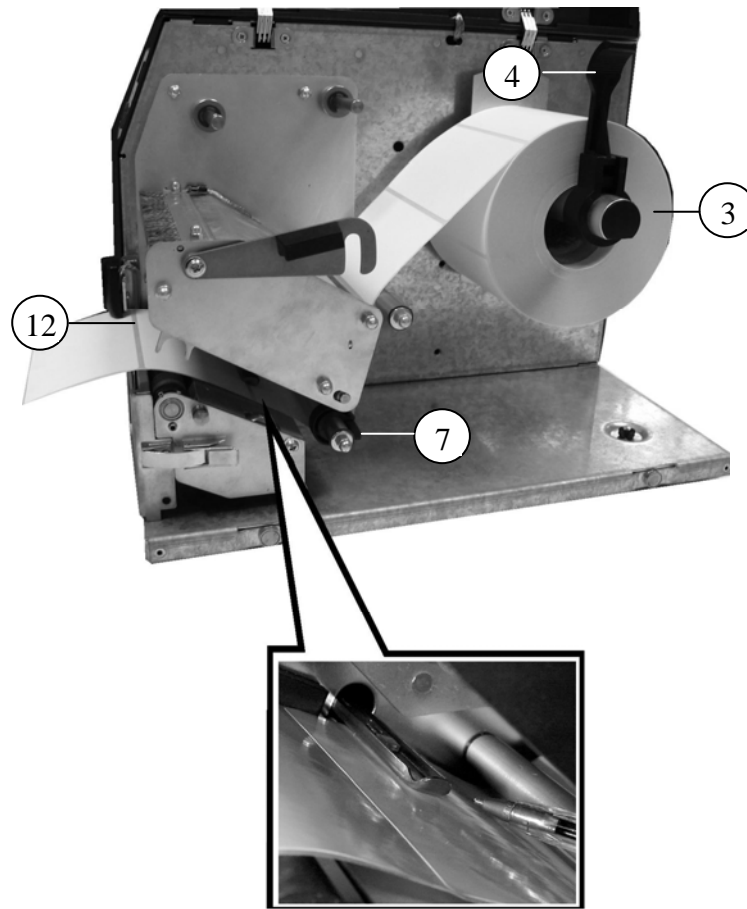
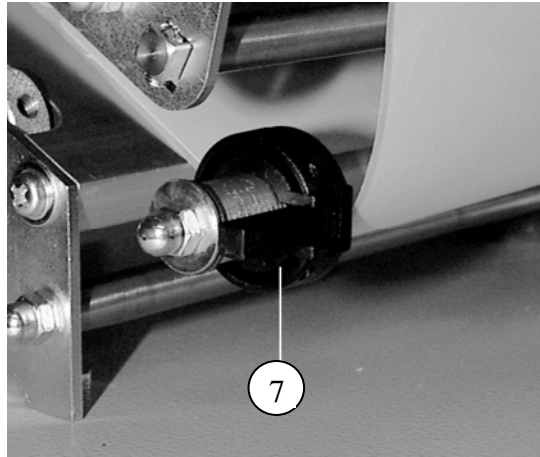

Fig. 12 – Label roll insertion and detail of paper path/sensor
Fig. 14 – Detail of the paper guide
- Insert the label roll (3) onto the corresponding roll shaft.
- Move the label roll lock lever (4) to the vertical position. Be careful not to block the movement of the label roll itself.
- Then pass the free end of the label roll over the first media roller and under the second one, on which the paper guide (7) is installed, then between the two sides of the paper sensor (see Fig. 12), and finally under the print head group through the label output (12).
- Slide the paper guide (7) into the printer until it touches the edge of the labels without blocking their movement, as shown in Fig. 14.
- Then insert the free end of the labels into the rear paper input slot (5). Pass it over the roll shaft, over the first media roller, under the second one on which the paper guide (7) is mounted, and then between the two sides of the paper sensor (see Fig. 12 on page 21), and finally under the print head group and out of the label output (12).
- Move the print head lock lever (11) to the closed position (13).
- Slide the paper guide (7) into the printer until it touches the edge of the labels without blocking their movement, as appears in Fig. 14 on page 22.
- Close the loading area and check that the paper passes unhindered through the rear paper input (5).